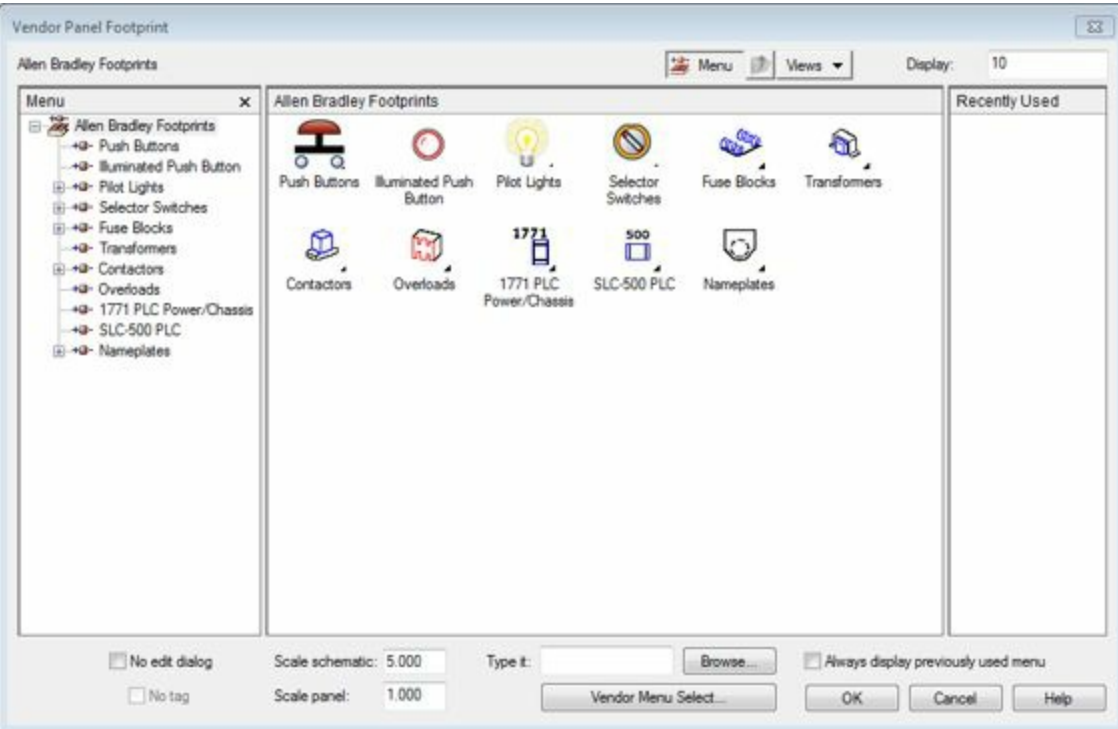

Figure-16. Vendor Panel Footprint dialog box
- Select the desired vendor from the list and click on the **OK** button from the dialog box. The **Vendor Panel Footprint** dialog box will be displayed; refer to Figure-16.